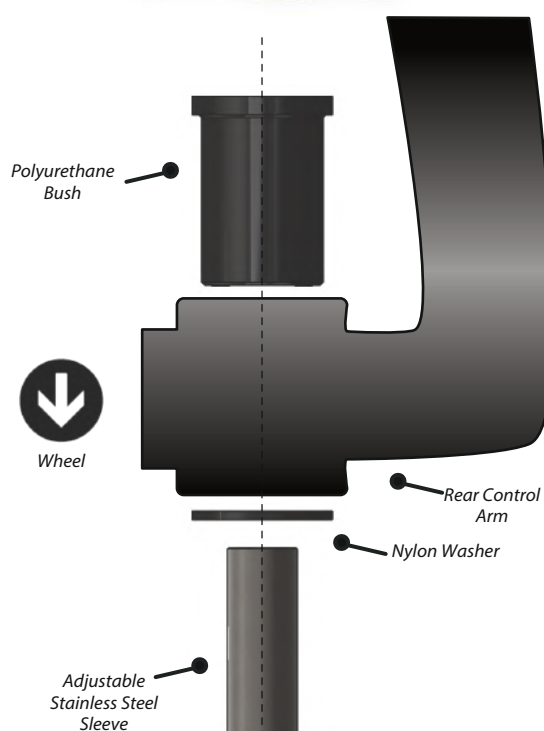

Figure 1
3. Insert the bush into the arm from the inside as shown in Fig 1.
5. Place the washer onto the sleeve and press the sleeve into the bush from the outside of the arm as shown in Fig 1.